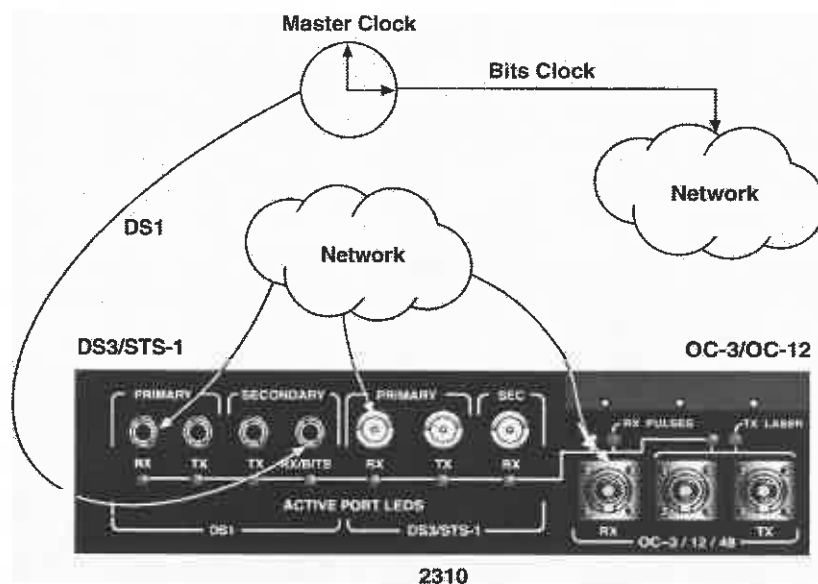

Figure 24 — DS1 Timing Slips test setup
- 1 Connect a cable from the SECONDARY RX/BITS jack to the DS1 BITS Clock or a known good reference signal (see Figure 24).
- 2 Connect a cable from the DSX RX jack to the signal to be tested (see Figure 24).
Figure 24 is a sample depiction of cable connections from the Master Clock to the inputs on the 2310 for DS1 Timing Slips testing.